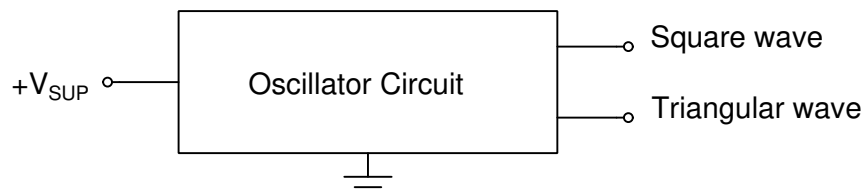
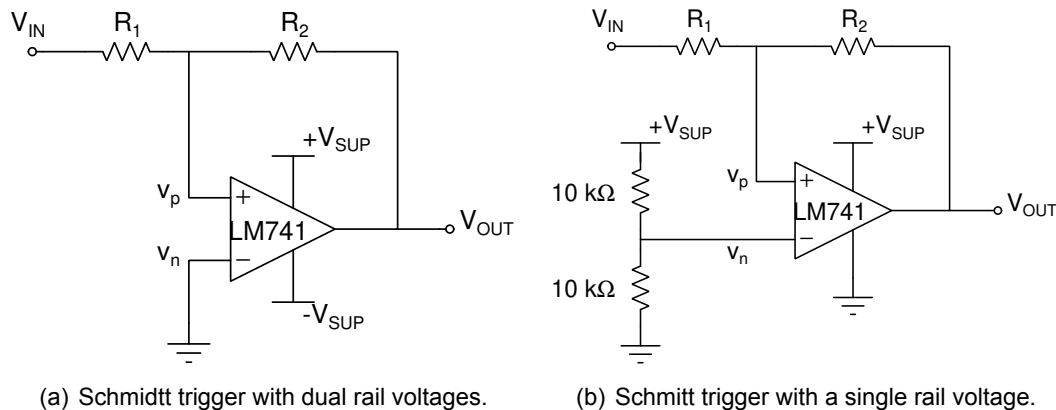
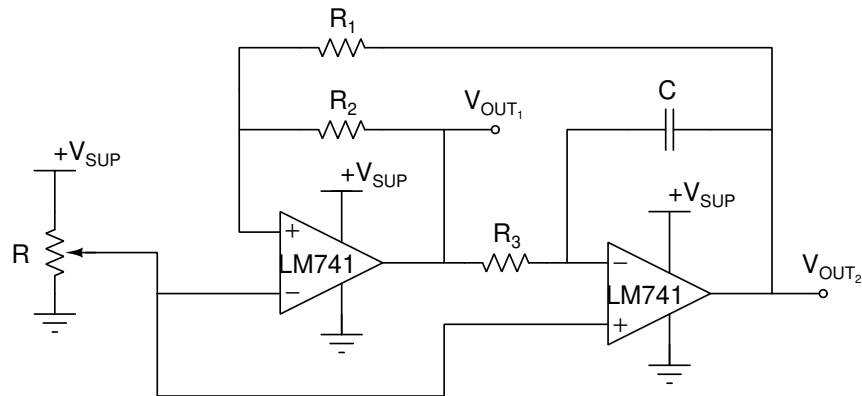

Figure 1: Block diagram of the oscillator circuit showing the inputs and outputs.
Figure 2: Schmitt trigger circuit using an Op Amp with positive feedback.
Figure 3: Oscillator circuit using a Schmitt trigger and an inverting integrator.
Two LM741 Operational Amplifiers (OpAmps) are used to produce an oscillator. A block diagram, showing the inputs and outputs, is shown in Figure 1. The input to the circuit is a DC voltage of $+V_{SUP}$. The output of the circuit consists of a $\sim 10 V_{pp}$ square wave and a $\sim 5 V_{pp}$ triangular wave. The oscillator is formed by connecting the output of a Schmitt trigger, shown in Figure 2, to the input of an inverting integrator (see Lab #2), and then connecting the output of the inverting integrator back to the input of the Schmitt trigger. The complete oscillator circuit is shown in Figure 3.
1. There are many ways to implement a Schmitt trigger. One method uses an OpAmp configured with positive feedback as shown in Figure 2(a), for a dual-rail OpAmp, and Figure 2(b) for a single-rail OpAmp. In these circuits, the output of the OpAmp (V_{OUT}) is connected through resistor R_2 to the **non-inverting** input (v_p) of the OpAmp. This results in an amplifier circuit with positive feedback.
Assume the OpAmp in Figure 2(b) is ideal. Analyze this circuit and derive an equation for the two trigger levels in terms of the resistor values R_1 and R_2 . When $R_1 = 3\text{ k}\Omega$ and $R_2 = 12\text{ k}\Omega$, calculate the trigger levels that cause the output to switch from zero to $+V_{SUP}$, and from $+V_{SUP}$ to zero, and
2. For the Schmitt trigger circuit in Figure 2(b), determine values for resistors R_1 and R_2 so that the separation of the Schmitt trigger levels are $5 \pm 0.25\text{ V}$. Assume the OpAmp is ideal and $+V_{SUP} = 12\text{ V}$. With the chosen values of R_1 and R_2 , what are the two Schmitt trigger levels?
3. Perform a DC simulation to generate the transfer function of the Schmitt trigger circuit in Figure 2(b) with the resistor values you calculated in item 2. Set the power supply voltage ($+V_{SUP}$) to 12 VDC , and the input voltage (V_{IN}) to a DC voltage source. Sweep the input voltage from 0 to 12 V and then back to 0 V . A MATLAB® file for NGSpice is available at https://ece214.davidkotecki.com/docs/Matlab/ECE214_2024_Lab3_Schmitt.m. Analyze the simulated behavior of the circuit using both the ideal OpAmp and the LM741 OpAmp.
- Describe the function of the circuit shown in Figure 3. Assume the variable resistor is set to the mid-point resistance. Sketch the shape of the expected output signals V_{OUT1} and V_{OUT2} as a function of time.
- Perform a transient simulation of the circuit of Figure 3 using the Ideal OpAmp. What is the simulated value of the oscillation frequency? What is the duty cycle? A MATLAB® file for NGspice is available at https://ece214.davidkotecki.com/docs/Matlab/ECE214_2024_Lab3_Osc.m.
- Perform a transient simulation of the circuit of Figure 3 using the LM741 OpAmp. Since the OpAmp is not ideal, the value of R_3 you calculated may be off by as much as 20%. Adjust the value of R_3 to produce an oscillation frequency of 1.5 ± 0.1 kHz.